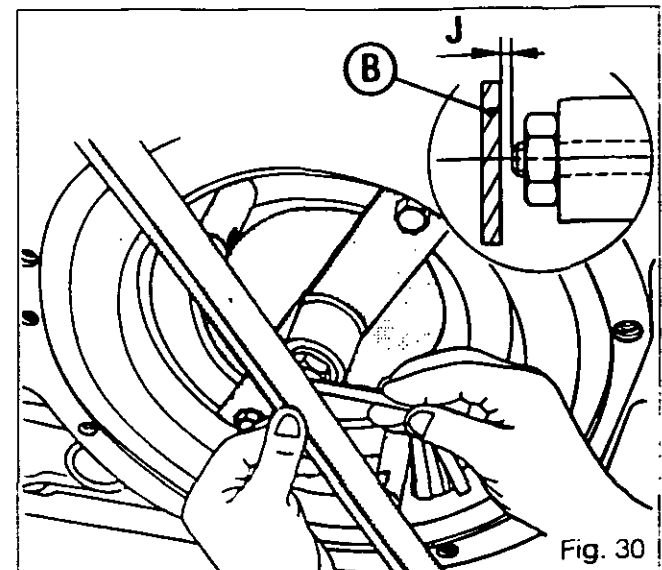

Fig. 30
99. Measure the gap J between the finger of the tool and the straight edge (B) with a feeler gauge (Fig. 30).